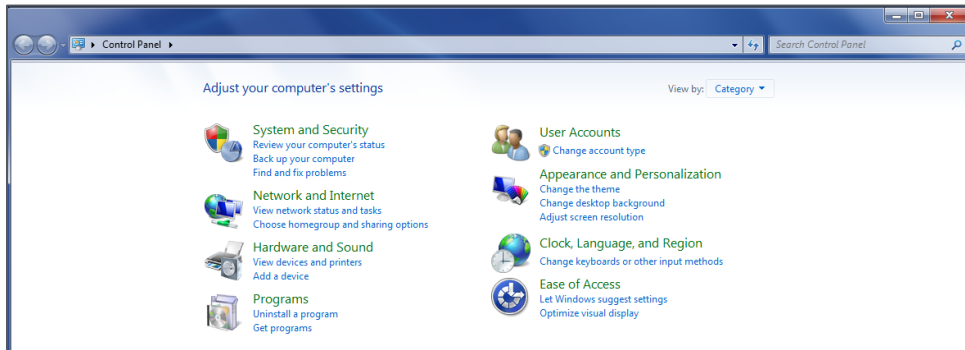

Figure 4-14: Control Panel
1. Open your computer's **Control Panel** as shown in Figure 4-14.